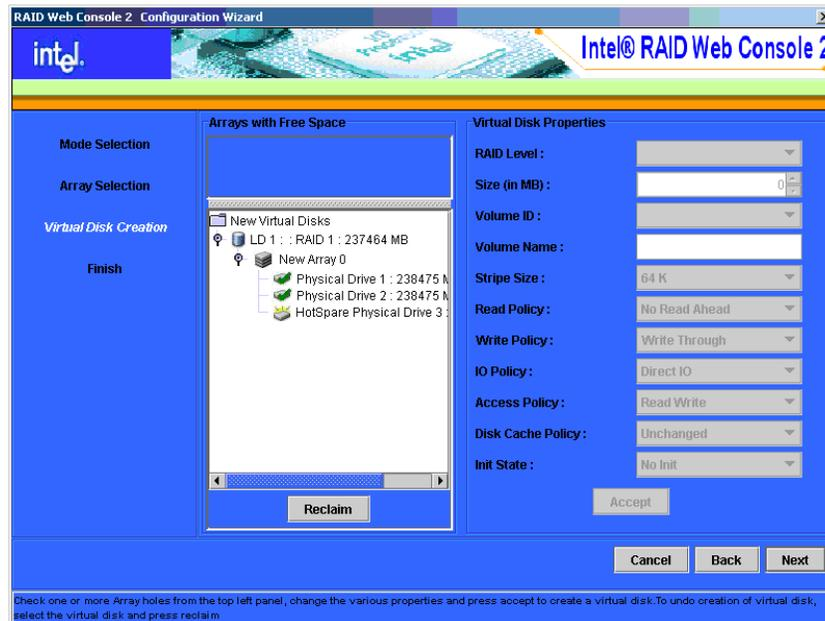

Figure 47. Manual Configuration – New Configuration
8. Click **Accept** to accept the configuration of the new virtual disk. This is displayed in Figure 47.